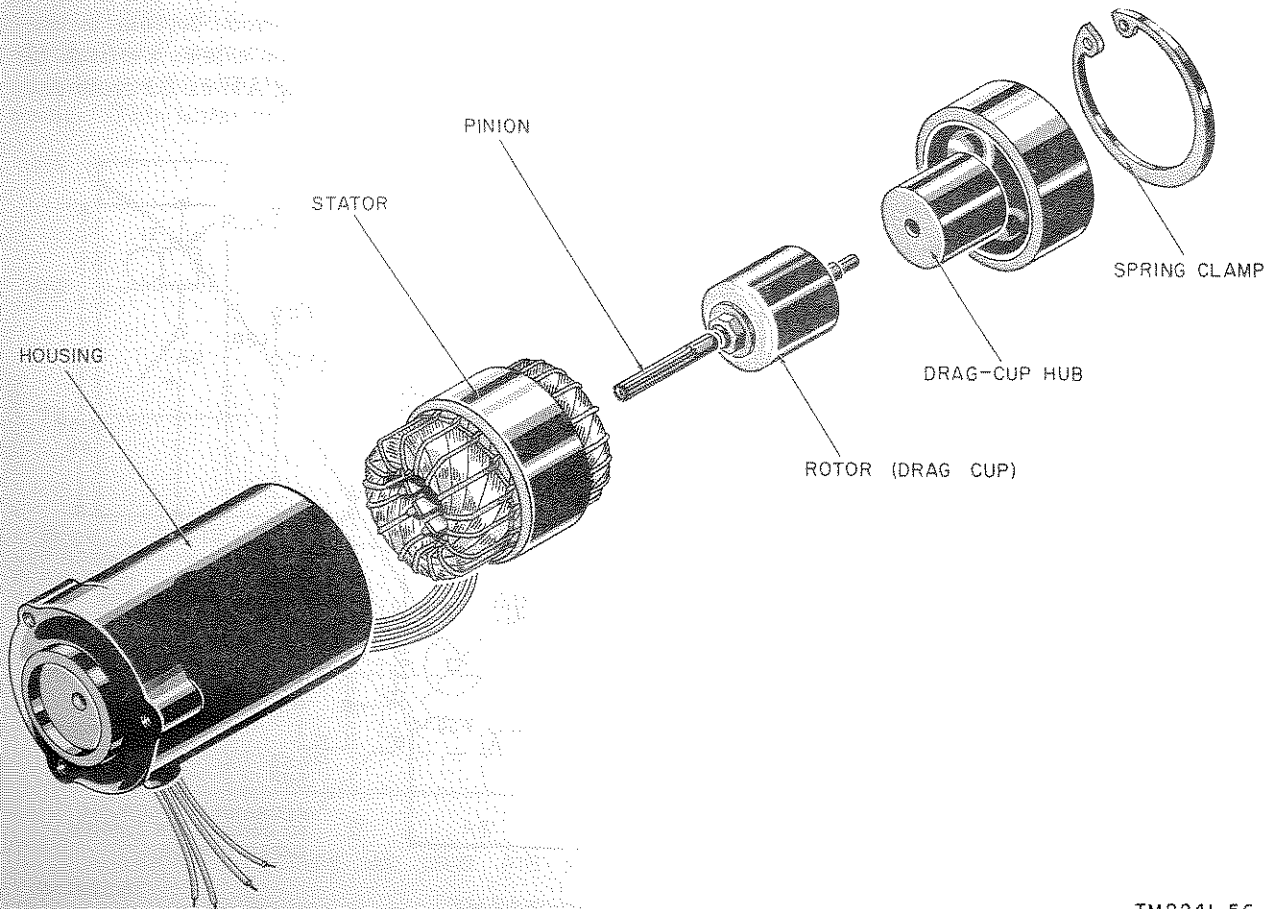

Figure 36. Exploded view of motor B1.
b. Commonly called drag-cup motors, B1 and B2 are ac followup devices using the principle of the induction-disk watt-hour meter. An exploded pictorial diagram of a drag-cup motor is shown in figure 36. The rotor is very light, consisting of a nonmagnetic cup on a shaft. The cup rotates within a conventional distributed-pole two-phase stator and a fixed round lamination stack which is used to complete the magnetic circuit. The field windings set up eddy currents in the drag cup which react with the air gap flux to produce motor